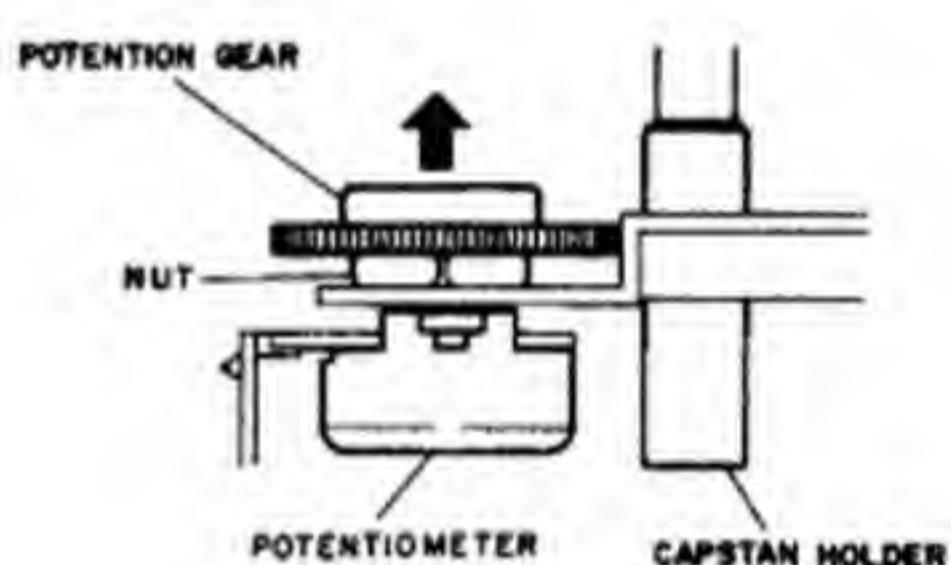

Fig. 4-13
- 4) Remove the potentiometer gear. Unscrew the position potentiometer securing nut. (See Fig. 4-13.)